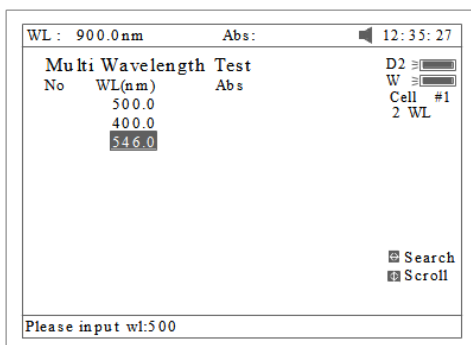

Fig 69
1. Press **【F1】** to setup a group of wavelengths for testing by pressing the numeric keypad followed by **【ENTER】** . (Λ) or (V) to modify the inputted data Fig. 69. Press **【ESC/STOP】** to finish setup and exit.